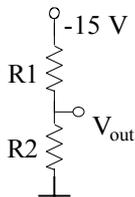

Figure 2.32
10. Find the ratio of R1 to R2 such that the output is  $-8\text{ V}$  in the circuit given in Figure 2.32. Find a pair of standard resistor values (given in section 2.2) for R1 and R2 such that above ratio is satisfied as much as possible. What is the percent error? Assuming that  $-8\text{ V}$  is reasonably approximated, can this circuit be used instead of the one in problem 9? Why?